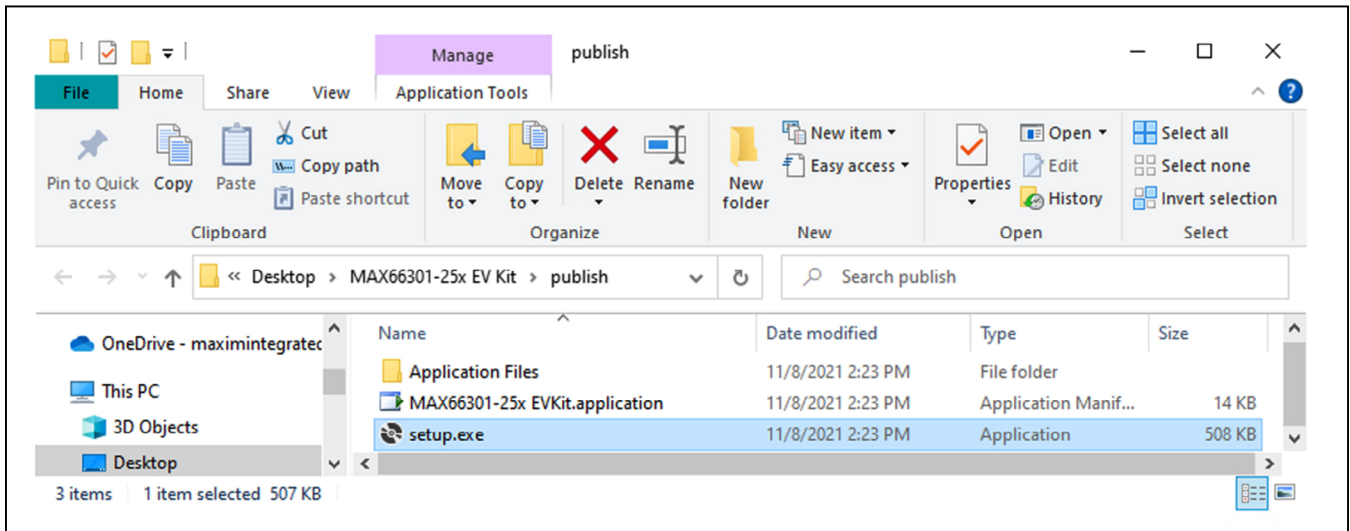

Figure 2. MAX66301-25x EV kit Setup
- 5) Open the **MAX66301-25x EV kit** folder, as shown in Figure 2, and double-click the **setup.exe**.